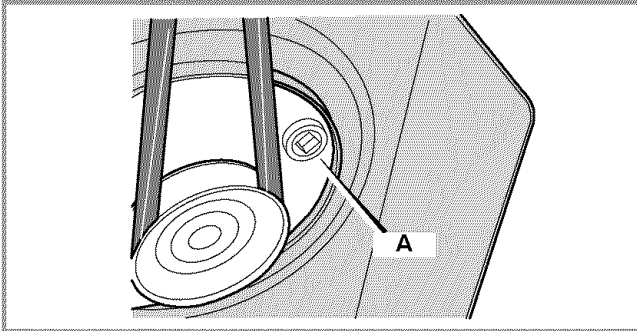

Figure 18: Oil Drain Plug
- 3 With engine off but still warm, remove the oil drain plug (A) as shown in Figure 18. Drain the oil into an appropriate receptacle.